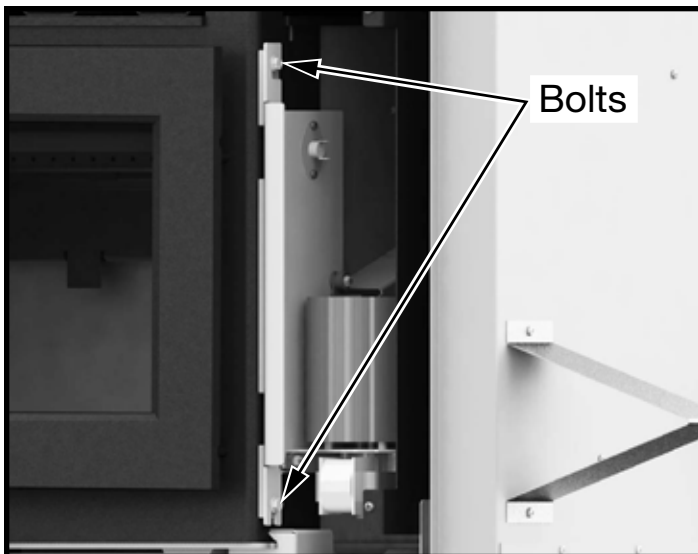

Figure 4: Removing mounting bracket bolts.
2. With a 3/8" wrench, loosen the two bolts securing the blower mounting bracket to the unit (Figure 4).